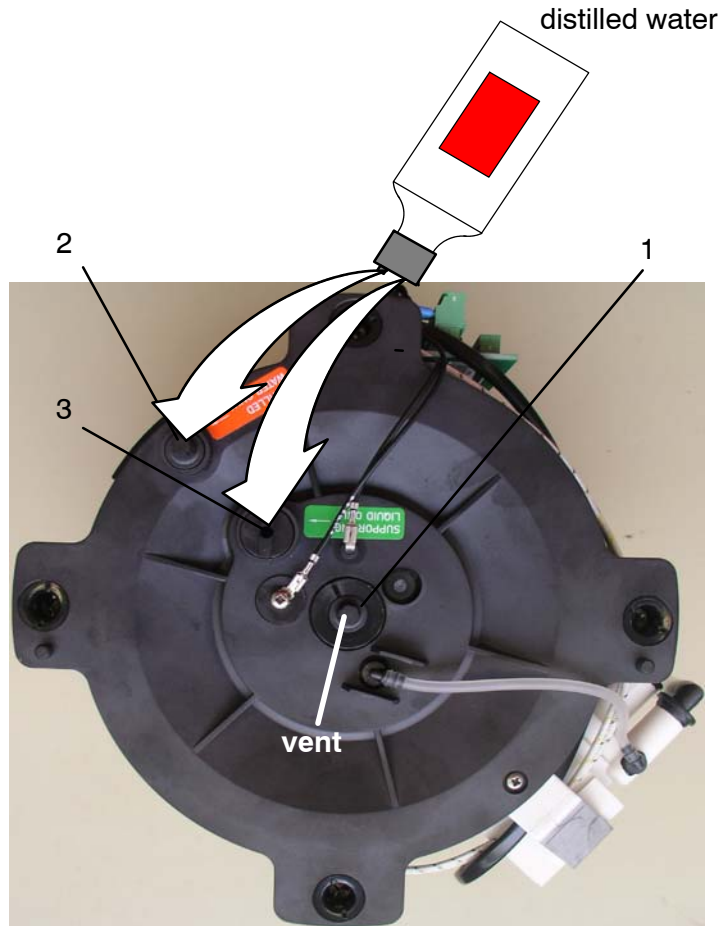

Figure 15 : Immediate measure to fill up with distilled water
- Open the ventilation outlet (Figure 15 /1), the supporting liquid screw (Figure 15 /3) and the distilled water screw (Figure 15 /2).